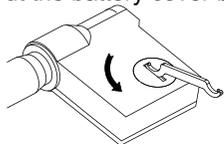

图1
- Turn the battery cover 45° counterclockwise with the spanner (fig.1), then remove it.